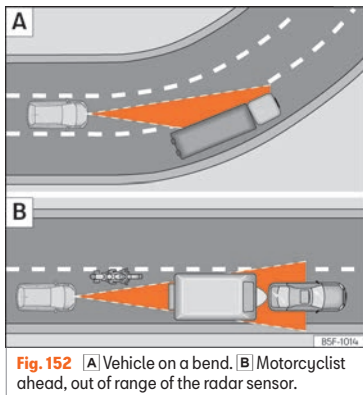

Fig. 152 [A] Vehicle on a bend. [B] Motorcyclist ahead, out of range of the radar sensor.
The ACC may not detect the vehicle in front on a curve, or may regulate the distance from vehicles in other lanes » » » Fig. 152 [A].
- Vehicles that are not aligned while driving or that are outside the sensor's detection area, such as motorcycles » » » Fig. 152 [B].